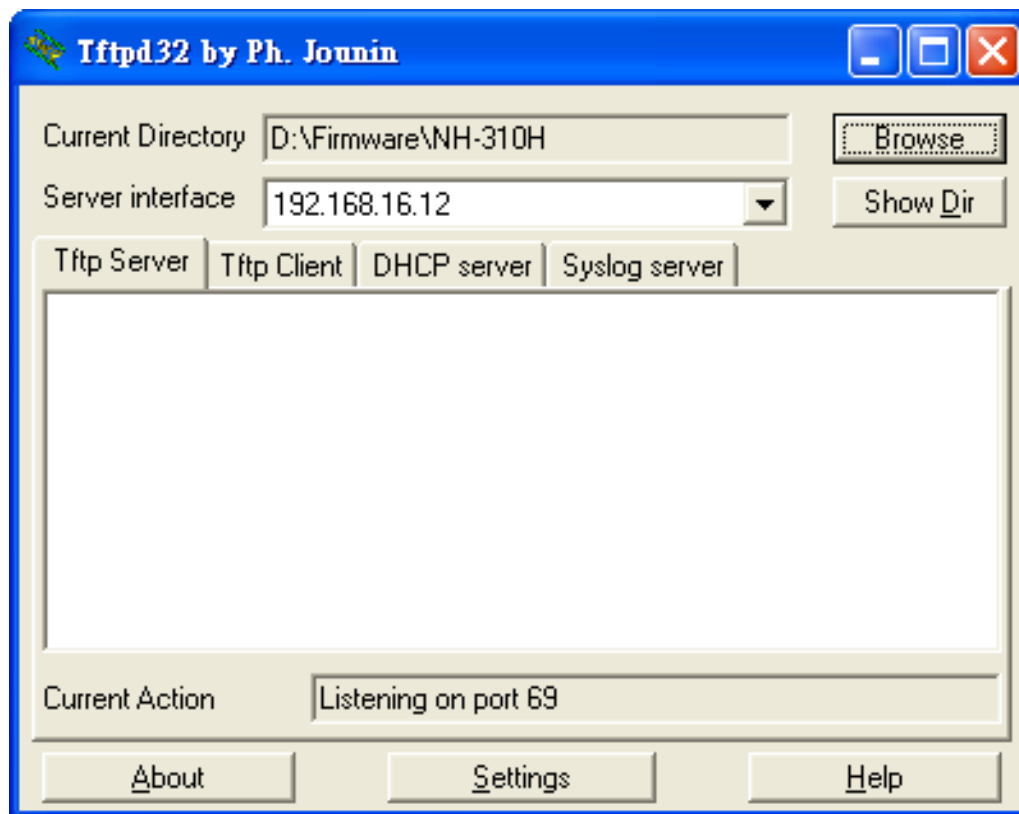

Figure 5.3.2 TFTP tool for f/w upgrading
- (2) Execute the TFTP tool and specify current directory which is stored the NH-310H firmware. Enter the IP address of the TFTP server interface field. Now the TFTP server is ready for firmware upgrading. A screen is displayed as shown in Figure 5.3.2.